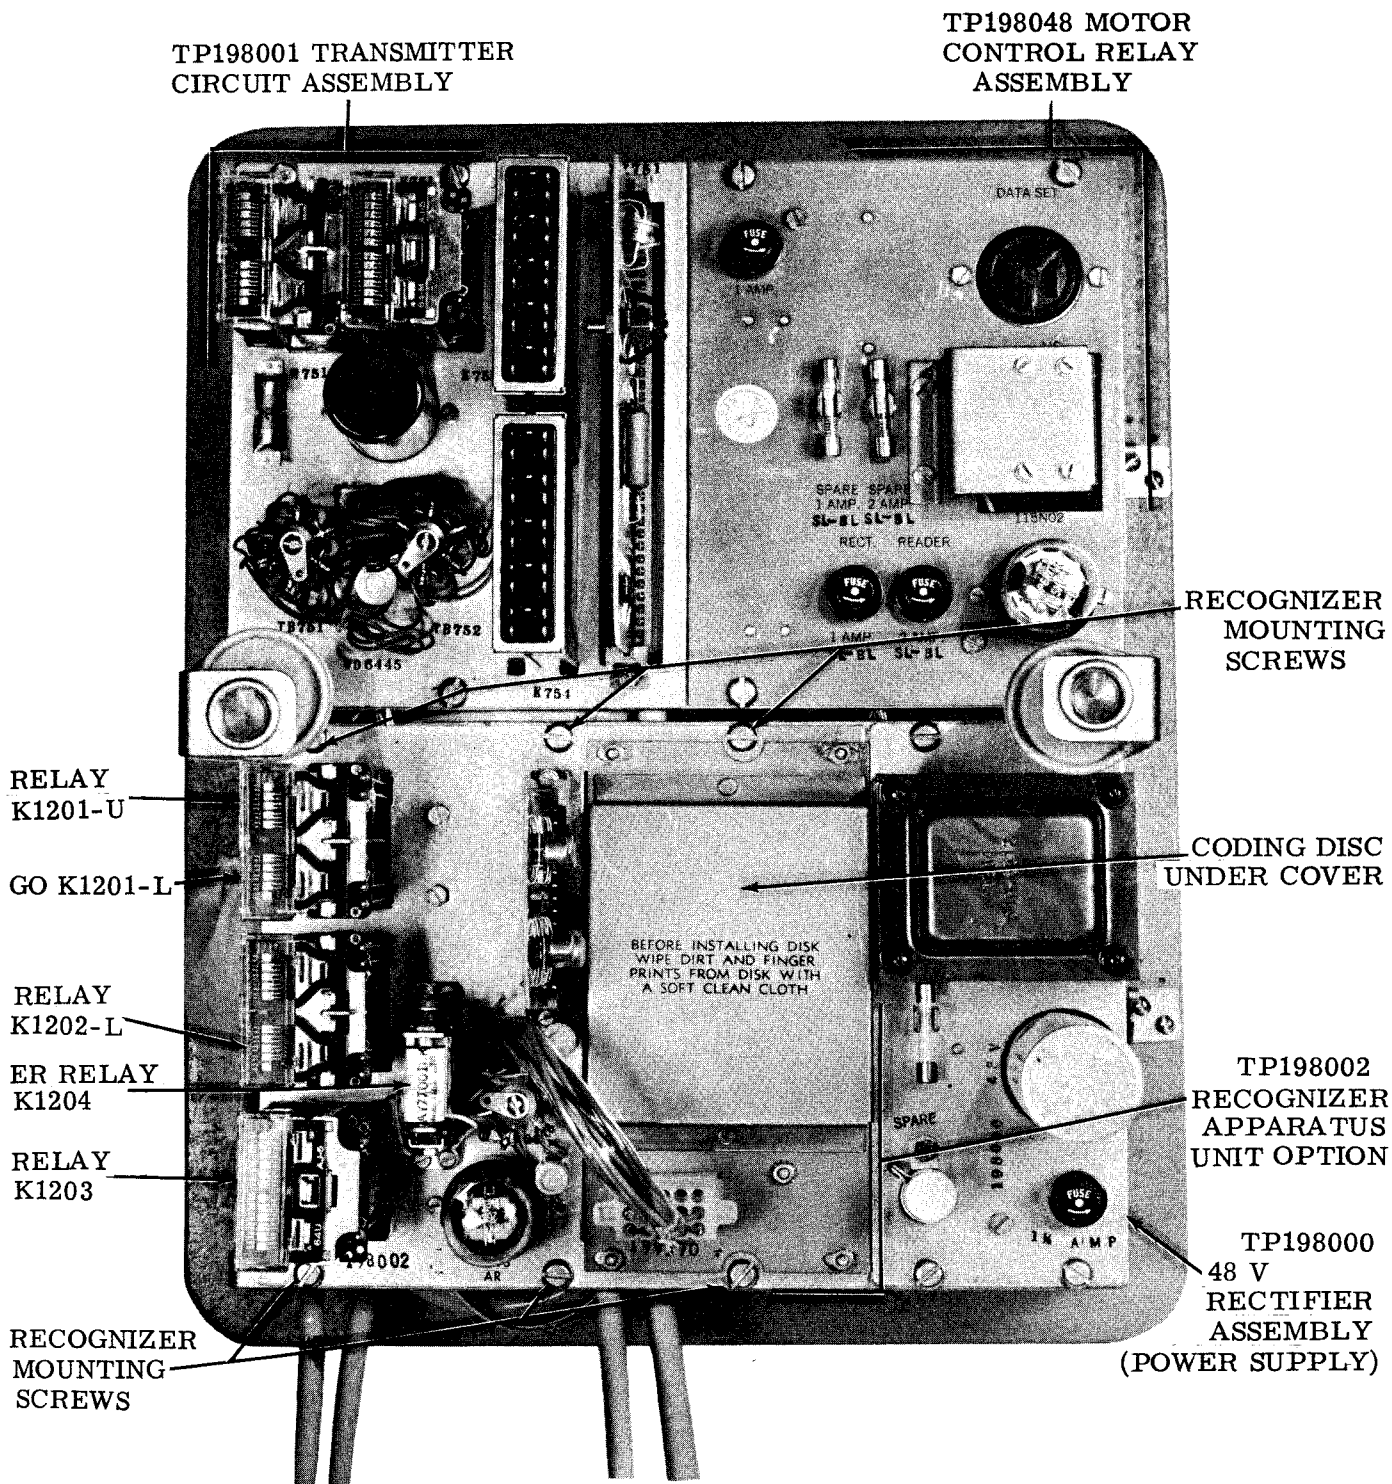
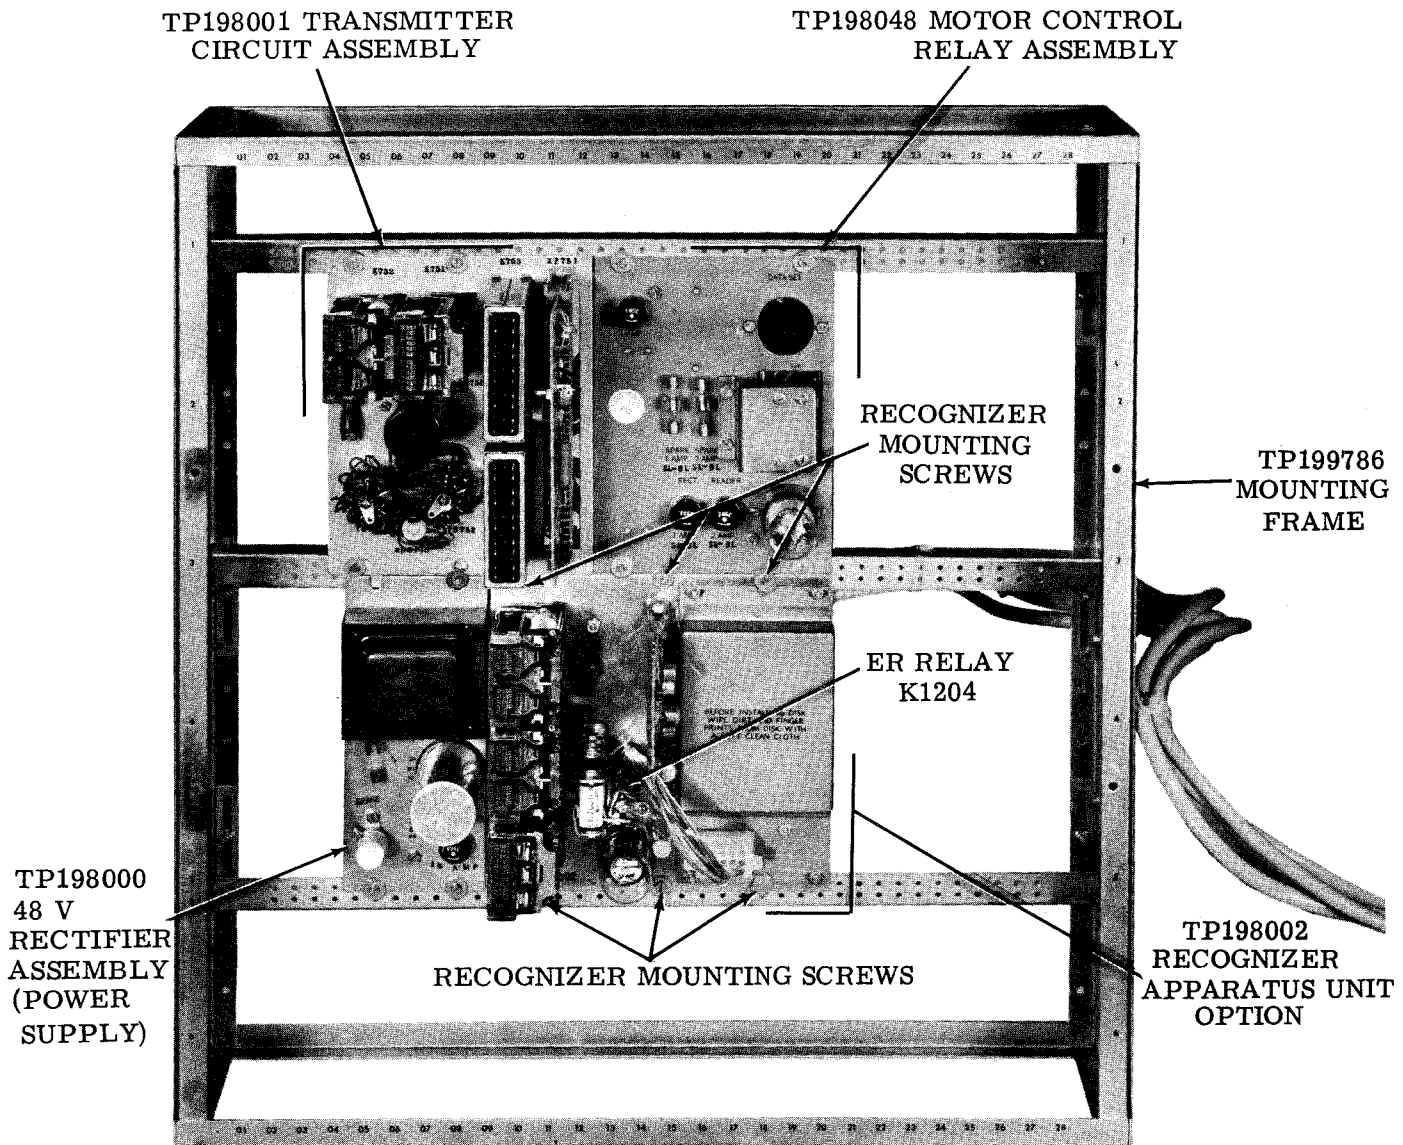

Figure 3 - Recognizer Apparatus Unit Option Mounted on Apparatus Box of Sender 5A - Mounting Side
Figure 5 - Recognizer Apparatus Unit Option Mounted on Apparatus Frame of Sender 5C
2.05 The recognizer is mounted in the apparatus box of the table-mounted Tape Sender 5A (Figure 3) or on the apparatus frames of the floor-mounted Sender 5C (Figure 5).
3.02 In the case of Sender 5A, mount the recognizer on the apparatus box using the six attached TP165102 screws as shown in Figure 3. In the case of Sender 5C, mount the recognizer on the apparatus frame using the six attached TP154335 screws and TP80720 washers as shown in Figure 5.
3.13 To remove the Z wiring option: Locate relay K1203 (Figure 4). Refer to attached wiring diagram 7099WD for location of wires. Remove the two wires from wire spring 12M of K1203. Twist together, tape, and store. Locate relay K1201-L (Figure 3). Remove the wire from wire spring 3B. Tape and store. Locate relay K1201-U. Remove wire from wire spring 8M and tape and store.
(a) With disc not rotating, ER relay K1204 (Figure 3) should be released (lower armature away from pole face).
3.24 Remove cover from coding disc by removing two mounting screws (Figure 3). Remove the coding disc by removing its wing nut.